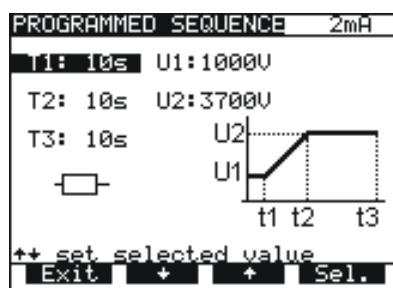

Fig. 12. Timer T1 is selected, change value by using $\uparrow\downarrow$ keys
- To change U and T values press **U/T** key. Value **T2** represent time from **t1** to **t2** and value **T3** represent time from **t2** to **t3** (fig. 12). Menu for selection and changing values is displayed, see the following figure: